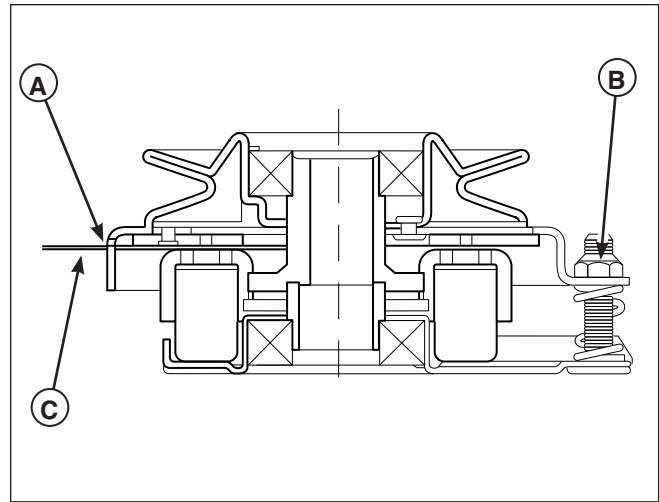

Figure 20. Adjust PTO Clutch
3. Insert a .016" - .018" (0,40 - 0,45 mm) feeler gauge (**C, Figure 20**) through each window, positioning the gauge between the rotor face and the armature face as shown in Figure 20.